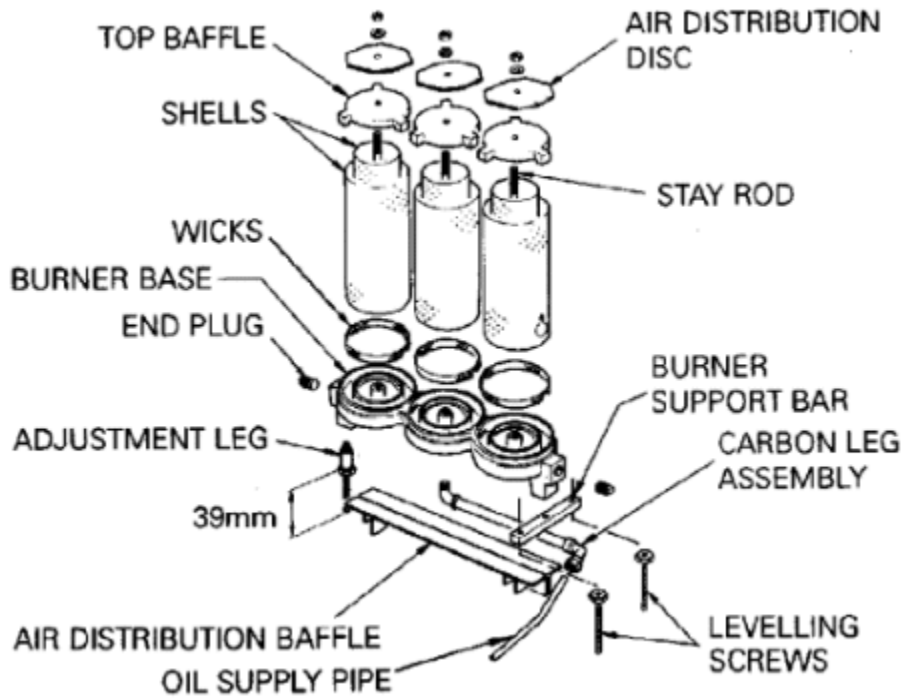

Fig.19 - Cooker Burner Assembly DESN 510835 A
(i) Break the cooker oil feed pipe at inlet joint (Fig. 19) taking care to collect Kerosene residue from burner oil pipe when inlet joint is separated.
(ii) Carefully lift complete oil burner assembly (See Fig.19) out of combustion chamber, and stand on servicing surface.
**To Clean Cooker Burner - See Fig.19**